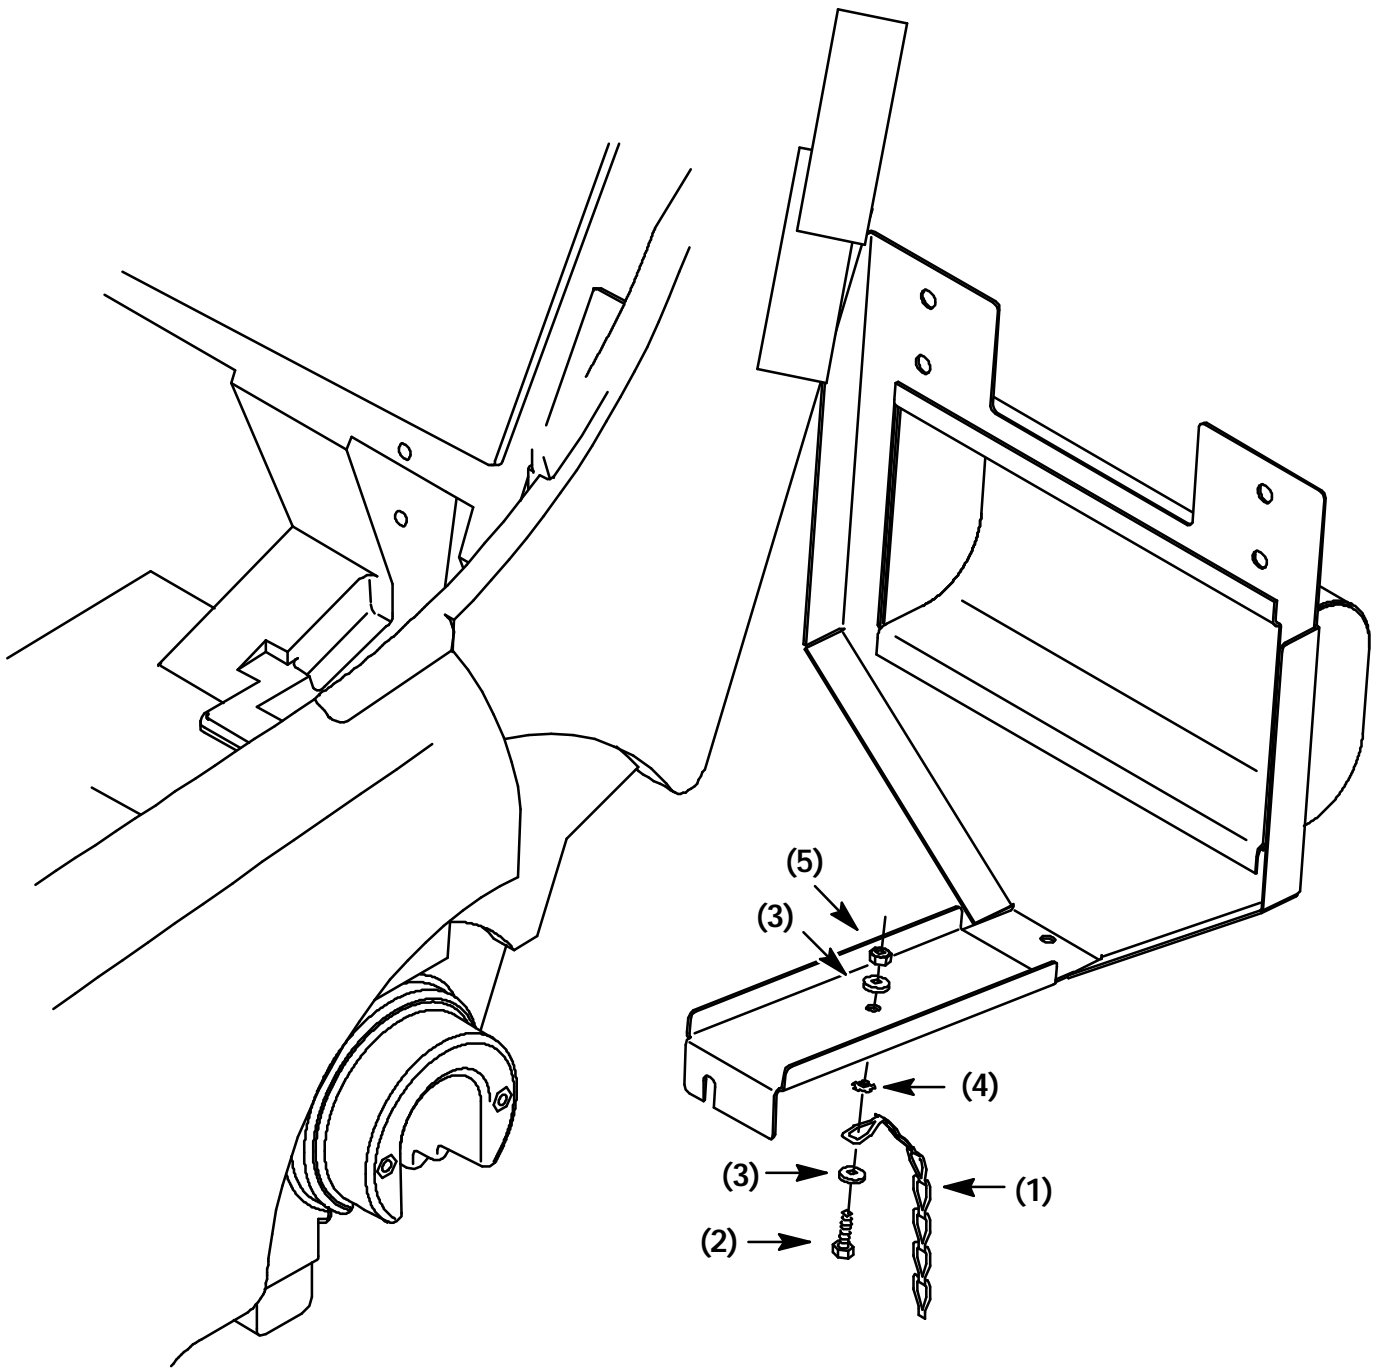

FIG. 1 - Chain And Hardware Assembly
(Refer to FIG. 1)
2. Install the new chain (1) using the hex screw (2), flat washers (3), lock washer (4), and nyloc nut (5). (Refer to FIG. 1)